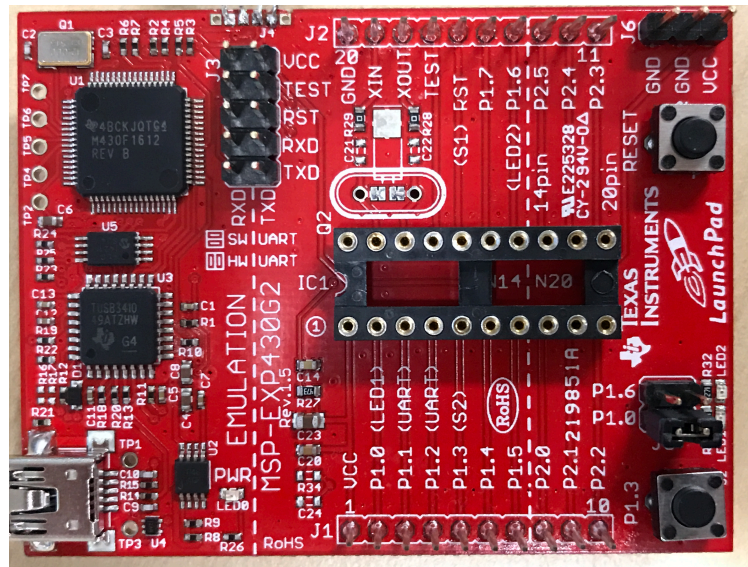

Figure 61. LaunchPad™ MSP430™ Socket (Depopulated)
4. Remove the MSP430 chip from the LaunchPad, if one is present, see Figure 61